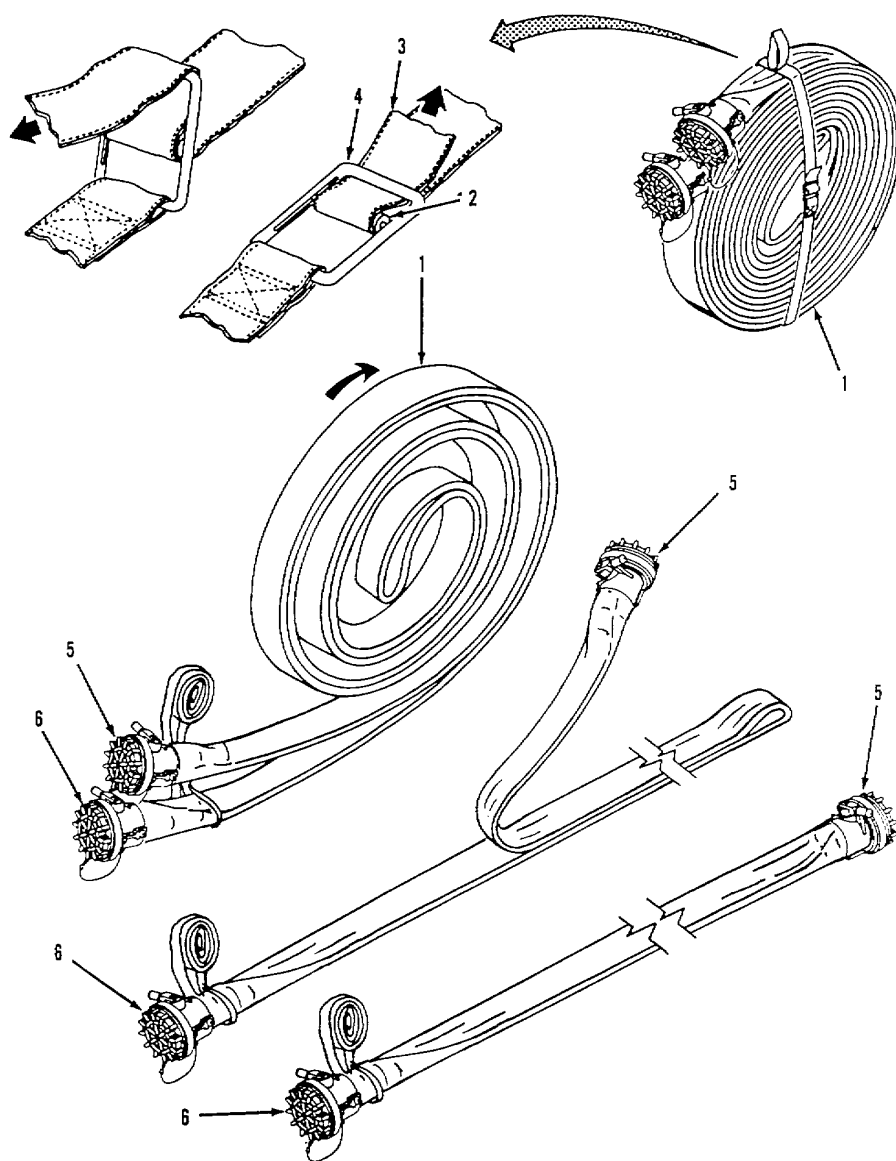

Figure 2-22. Rolling Fuel Hoses.
- (10) Disconnect fuel hose (11) from tee (3).
- (11) Disconnect fuel hose (10) from elbow (9).
- (12) Disconnect elbow (9) from fuel hose (8).
- (13) Disconnect two fuel hoses (7 and 8) from tee (5).
- (14) Disconnect fuel hose (6) from tee (5).
- (15) Disconnect tee (5) from fuel hose (4).
- (16) Disconnect fuel hose (4) from tee (3).
- (17) Disconnect tee (3) from fuel hose (1).
- (18) Disconnect quick disconnect end of fuel hose (1) from HEMTT tanker fuel outlet (2).
- (19) Prepare HEMTT tanker for movement in accordance with TM 9-2320-279-10-1.
- f. Rolling Fuel Hoses. Refer to figure 2-22.